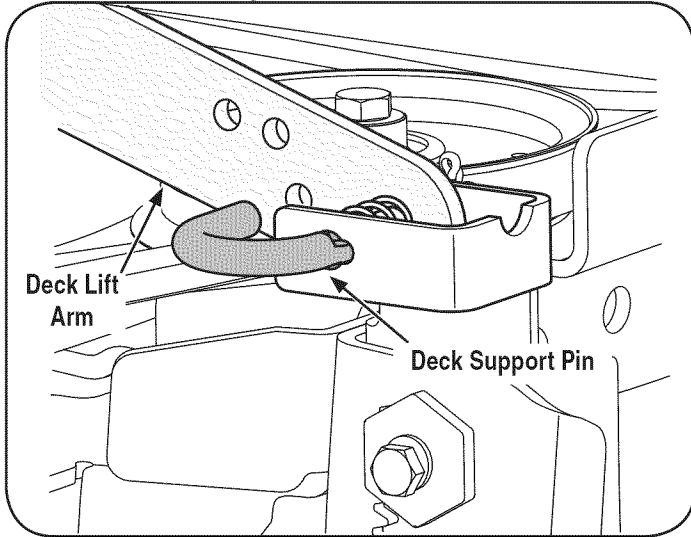

Figure 12
6. Pull the deck support pin outward to release the deck from the deck lift arm. See Figure 12.
- Reconnect the deck lift arms. See Figure 12.